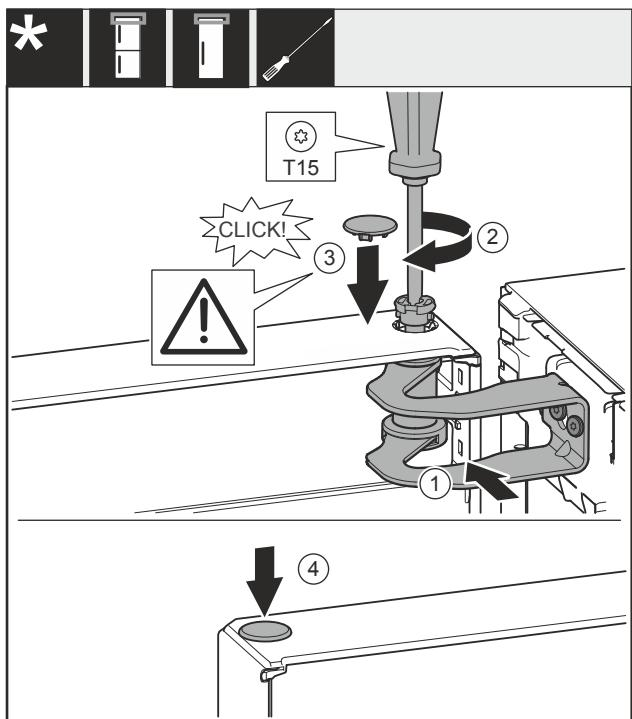

Fig. 25
- ▶ Align the door towards the opening in the swap bearing block Fig. 25 (1).
- ▶ Insert the pin Fig. 25 (2) and tighten it with the screwdriver.
- ▶ Insert the cover Fig. 25 (3).
- ▶ Check to be sure that the cover Fig. 25 (3) is positioned on the door.
- ▶ Insert the cover Fig. 25 (4).